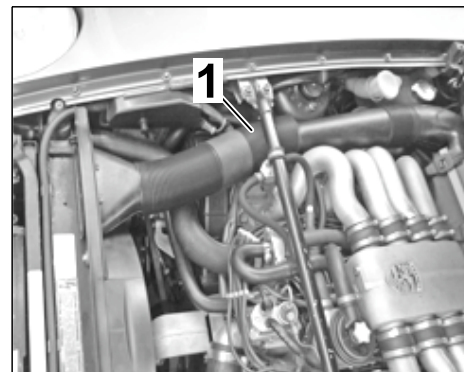

Figure 26
- 8.3 Install air intake hose ⇒ Figure 26 -1-.